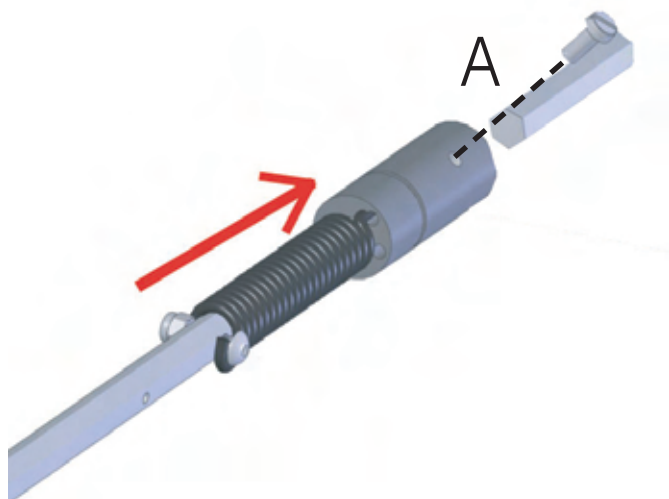

Fig. 14
- 3) Fit the rod on the motor frame and firmly tighten screw A. (Fig.14)